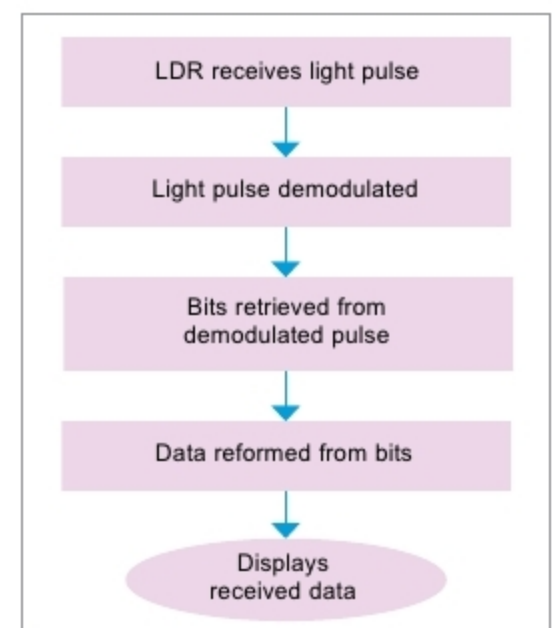

Fig. 3: Receiver process block diagram
**Receiver process block diagram.** Block diagram in Fig. 3 shows the process of the receiver operation. Light pulse obtained from the light source is sensed by photosensitive elements (LDR in this case). Sensed pulse is demodulated and bits are identified. Transmitted data is framed from received bits.